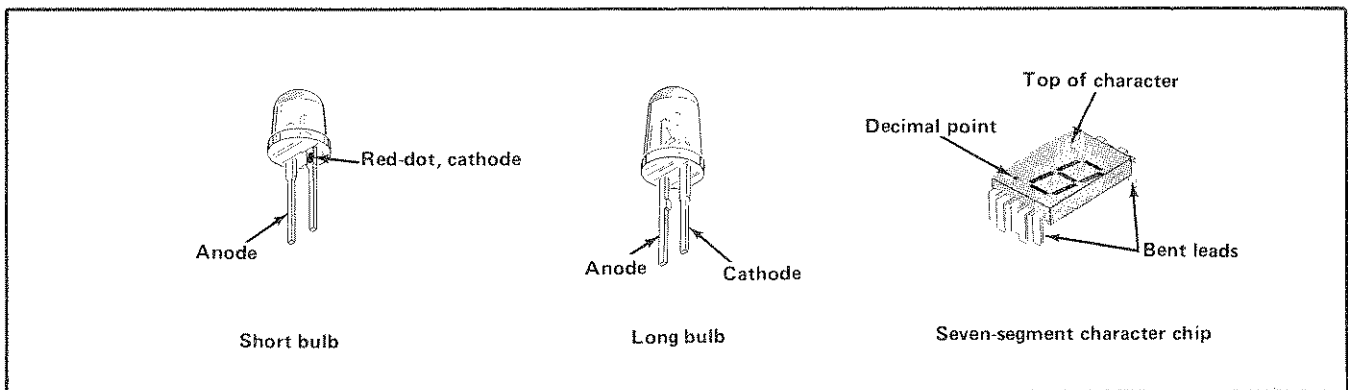

Figure 3. Light-emitting diode (LED) lead orientation illustration.
**Light-Emitting Diodes.** LED's used as indicators are mounted on the sub-panels with plastic sleeve sockets similar to the incandescent bulb mountings or they are soldered directly to a sub-assembly and so mounted that they protrude through holes in the panel. In these cases, the sub-assembly must be exposed and the anode and cathode lead orientations carefully noted before unsoldering the defective LED. See Figure 3 for LED lead identifying information.